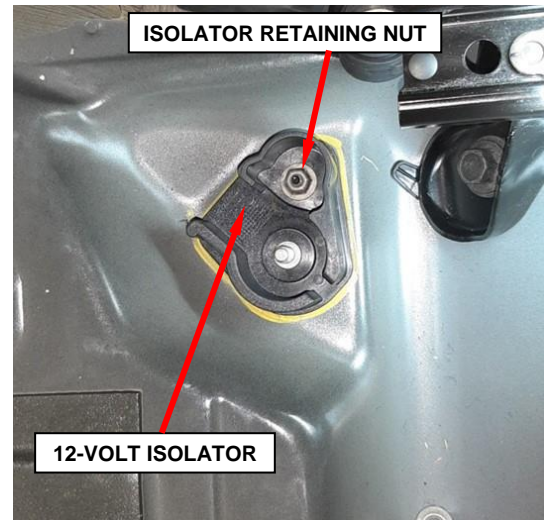

Figure 25 – 12-Volt Isolator
16. Remove the 12-volt isolator retaining nut then remove the isolator. Discard the isolator (Figure 25).
21. Install the retaining nut to the 12-volt isolator and tighten the nut to 5 N·m (44 in. lbs.) (Figure 25).